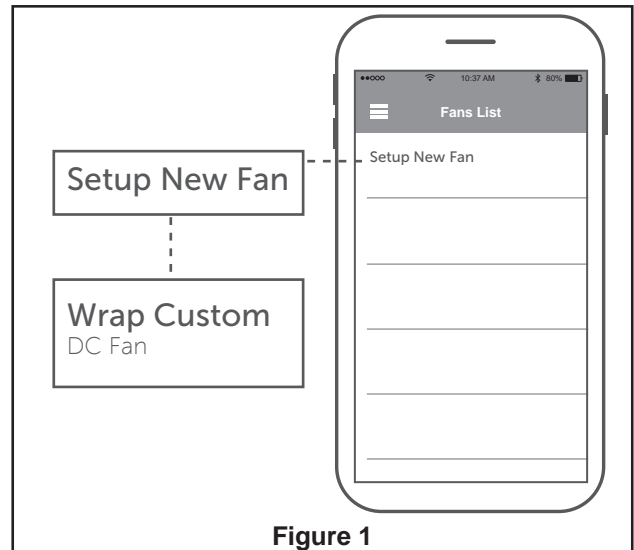

Figure 1
1. Open the fanSync app and tap Setup New Fan to begin setup. (Figure 1)
- 1. Installing Wall Holder:** (Figure 1)